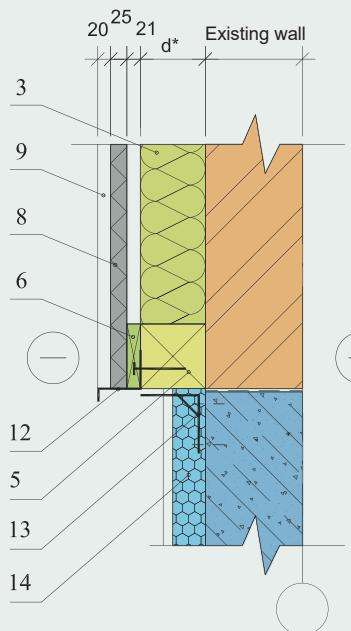

Fig. 3.
- ① Plinth wall of the building
- ② Existing external wall
- ③ Thermal insulation – mineral wool or eco wool in a timber frame
- ④ Angle
- ⑤ Squared timber of plinth of the thermal insulation frame, treated with an antiseptic (Fig. 3). Sizes according to the frame design, minimum size – approx. 60*100 (h)
- ⑥ Spaced cladding, 21*100 mm, s=605 mm
- ⑦ Frame structure of the thermal insulation frame.
- ⑧ CEWOOD panel, 25 mm.
- ⑨ Plaster A4
- ⑨.1. Cement or cement-lime mortar (for example Sakret CLP+, ZM or Pmsuper) layers, 3-4 mm or 5-7 kg/m²
- ⑨.2. Undercoat (for example Sakret CLP+), 15-20 mm
- ⑨.3. Glass fibre mesh SSA 1363-4) in adhesive mortar (for example Sakret BAK)-4 kg/m²
- ⑨.4. Decorative trim, paint coat
- ⑩ Plaster A3
- ⑩.1. Glass fibre mesh in adhesive mortar 5-6 kg/m²